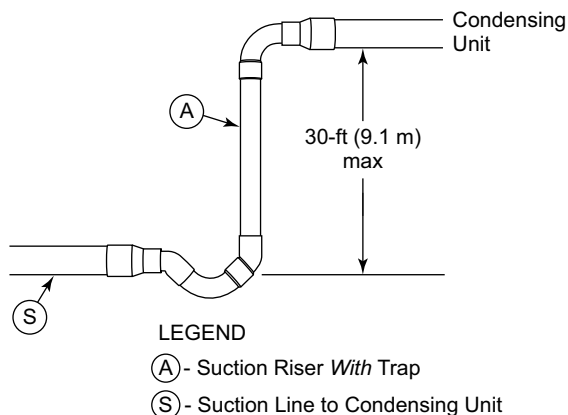

Fig. 6 — Suction Line Piping — Speed Riser
- See Fig. 6 for speed riser diagram.
See Fig. 6 for speed riser reference, where tube S is the horizontal line size and tube A is the reduced diameter riser size.